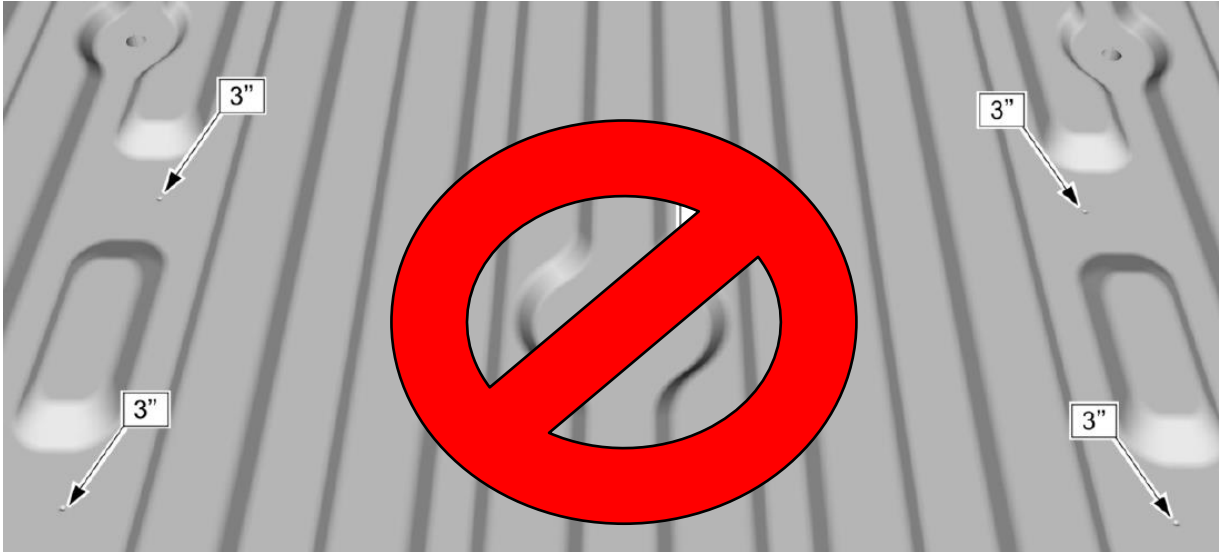

FIGURE 3
3. Using a 3" hole saw cut the 4 outer puck holes (See Figure 3).